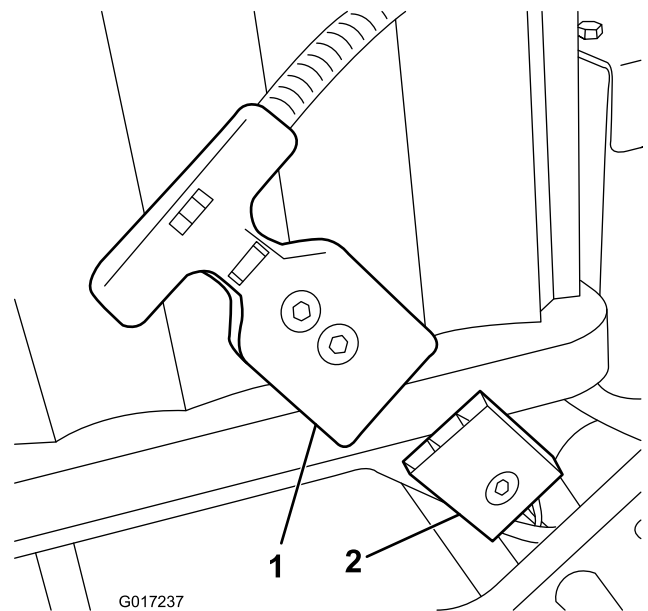

Figure 6
5. Pull the eFlex T-handle connector off the main battery power supply connector affixed to the battery tray (Figure 6).